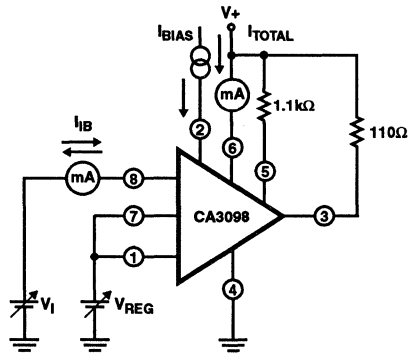

FIGURE 3. TOTAL SUPPLY CURRENT, AND INPUT BIAS CURRENT TEST CIRCUIT
- For definition of V_{REG} see Figure 3.
- Continuous (DC) output current must be limited to $\leq 40\text{mA}$. For 100mA output current, the duty cycle must be $\leq 40\%$.
* See Figure 3 for definition of V_{REG}